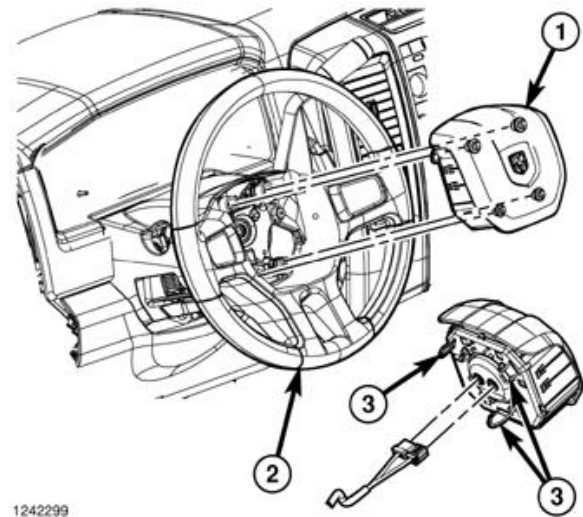

Figure 5 – Airbag Removal
9. Push the handle of the tool downward for the blade to pry the snap retainer wire loop (3) upward far enough to disengage the loop from the hook of the steering wheel armature. At the same time, gently pull the DAB (1) away from the steering wheel (2) to prevent the retainer from snapping back into place over the hook once it is disengaged (Figure 5).
18. Carefully position the DAB (1) into the hub cavity of the steering wheel (2). Be certain that the clockspring pigtail wires and the steering wheel wire harness are not pinched between the DAB and the horn switch, the steering wheel armature or, on vehicles equipped with a diesel engine, the steering wheel damper weight (Figure 5).
19. Engage the lower airbag snap retainer wire loop (3) onto the lower hook of the steering wheel armature. The lower snap retainer wire loop has a distinctive V-shape and must always be installed onto the six o'clock hook of the steering wheel armature (Figure 5).